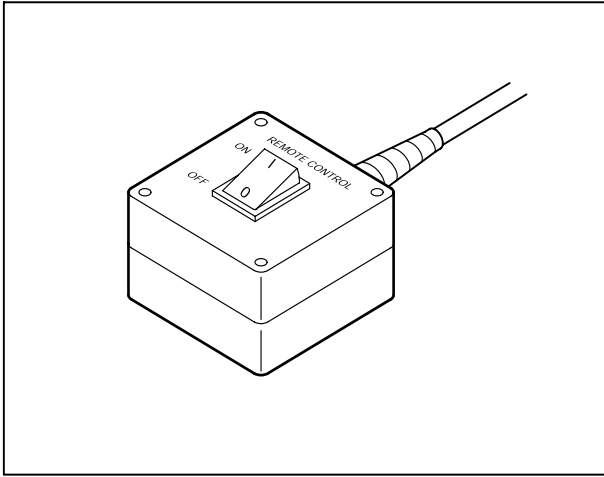

Fig. 3-1 REMOTE CONTROL switch
- The ConfoCor 2 is turned on by switching the **REMOTE CONTROL** switch (Fig. 3-1) to position "**ON**". This switches on all system components.